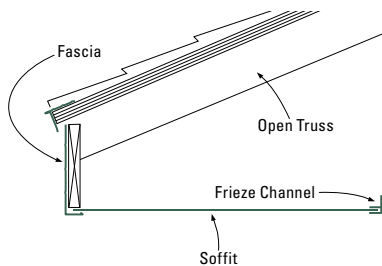

Figure 1
1. Examine the eaves illustrations and find one that most closely resembles the construction methods used on your particular projects (Figures 1 through 4).